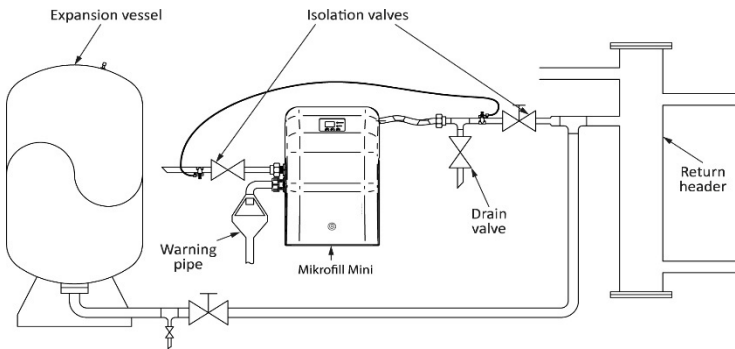

Fig. 10
2. Isolating valves **MUST** be installed on the unit inlet and outlet before connection to the flexible hoses to allow the unit to be isolated if required. The isolation valve on the outlet should be of a lock shield type. See Fig. 10.
3. A drain valve must be fitted on the outlet of the Unit before the isolation valve. See Fig. 10.
9. The Unit should be connected to the system return header along with the expansion vessels as specified in BS 7074. See Fig. 10.